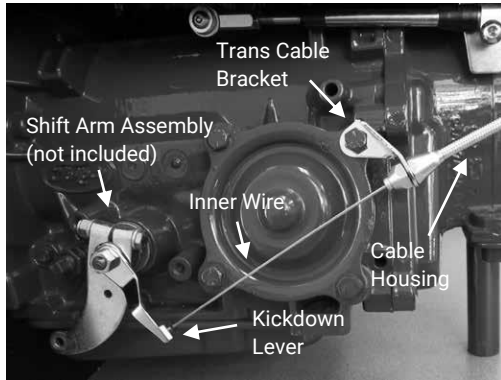
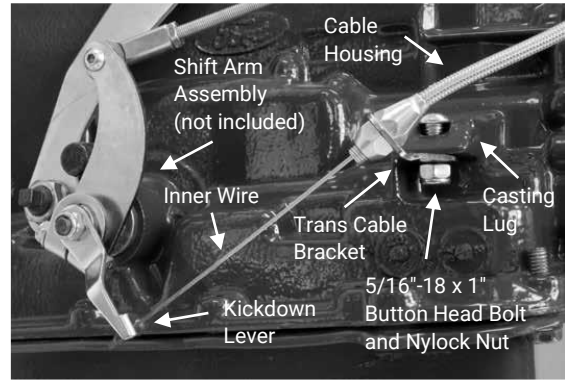
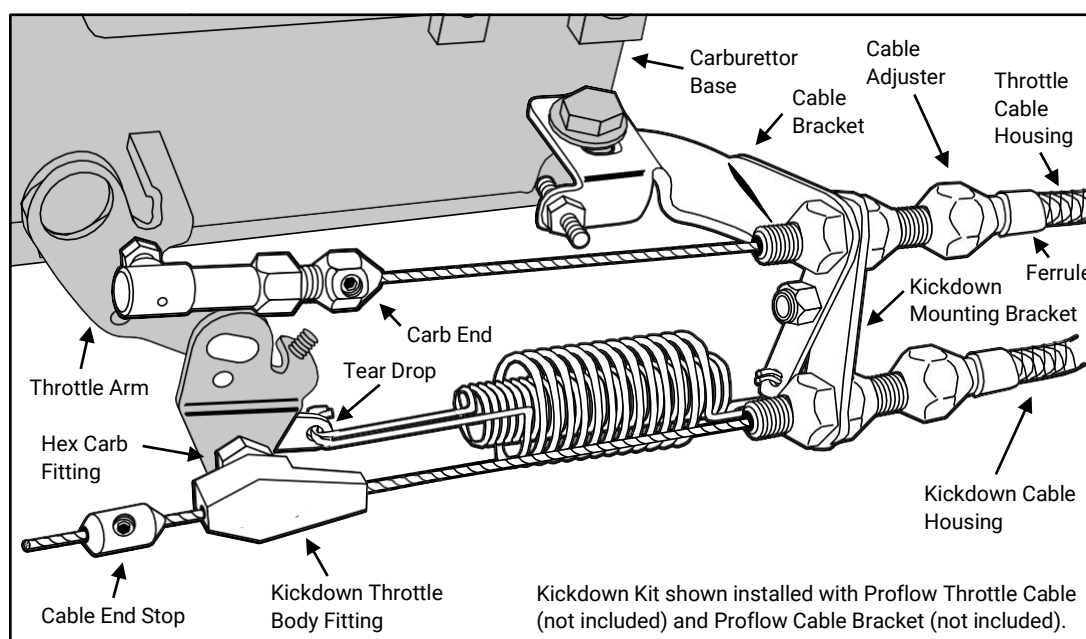

Figure 4: C4 Transmission
Figure 5: C6 Transmission
Figure 8
2. Install the kickdown lever onto the transmission, with the cable hole towards the transmission as shown in Fig. 4 for C4 and Fig. 5 for C6.
3. Install the trans cable bracket and the cable housing onto the transmission as shown in Fig. 4 for C4 and Fig. 5 for C6. C4 uses an existing transmission bolt. The C6 kit includes a 5/16"-18 x 1" button head bolt and locknut for the trans cable bracket. **NOTE:** On the C6 transmission, the cable mounting bracket goes underneath the casting lug on the side of the transmission.
The tear drop (not included, comes with the Proflow Cable Bracket) will be attached to the throttle arm by the hex carb fitting. Separate the hex carb fitting from the kickdown throttle body fitting. Install the hex carb fitting and the tear drop onto the throttle arm as shown in Fig. 8. Hook the springs to the tear drop and tighten the nylock nut on the hex carb fitting. Then, back the nylock nut off just enough so that the tear drop can pivot freely.
Final installation should look like Fig. 4 or 5 and Fig. 8.